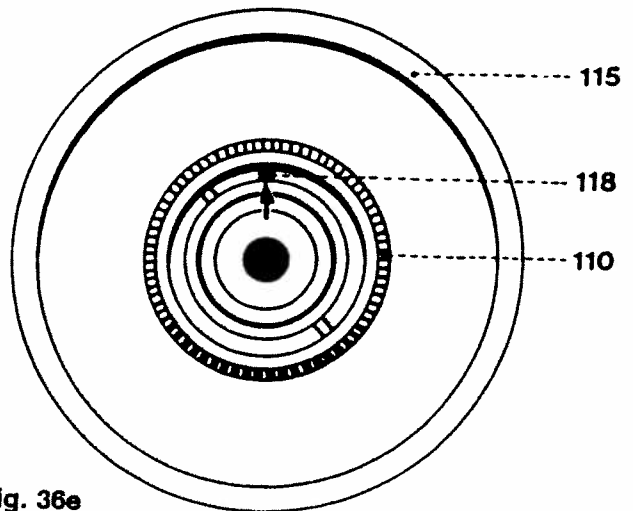

Fig. 36e
- Push handwheel release disc 110 with its square mark 118 facing up into the handwheel (fig. 36e).